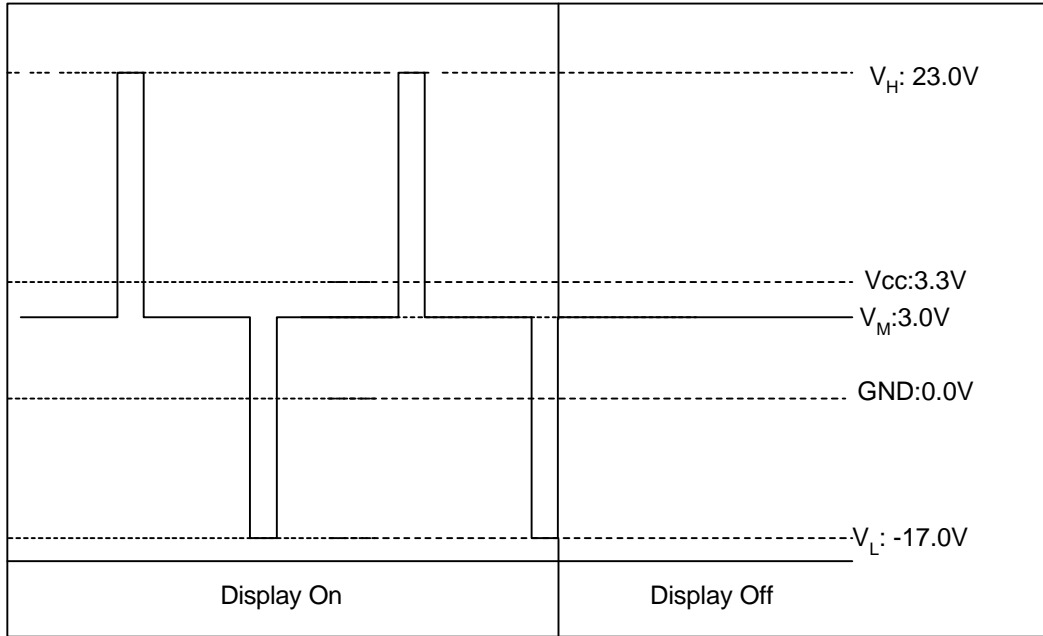

Figure 8-2. LCD Common Drive Output Waveform & Voltage Level
- The voltage relationship of each signal is illustrated in Figure 8-2: